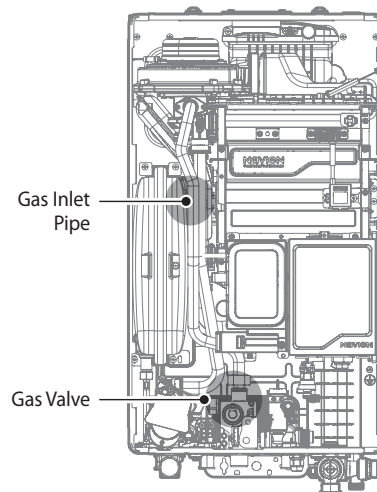

Figure 2. NCB300 Internal Components
7. With the internal components exposed, locate the gas inlet pipe and the gas valve in the middle of the unit, as shown in Figure 2.